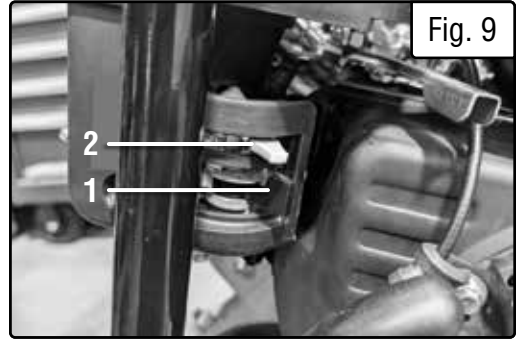

Fig. 9
3. Turn the fuel valve (Fig. 9 - 1) to the “ON” position.
4. Move the choke lever (Fig. 9 - 2) to the “START” position.